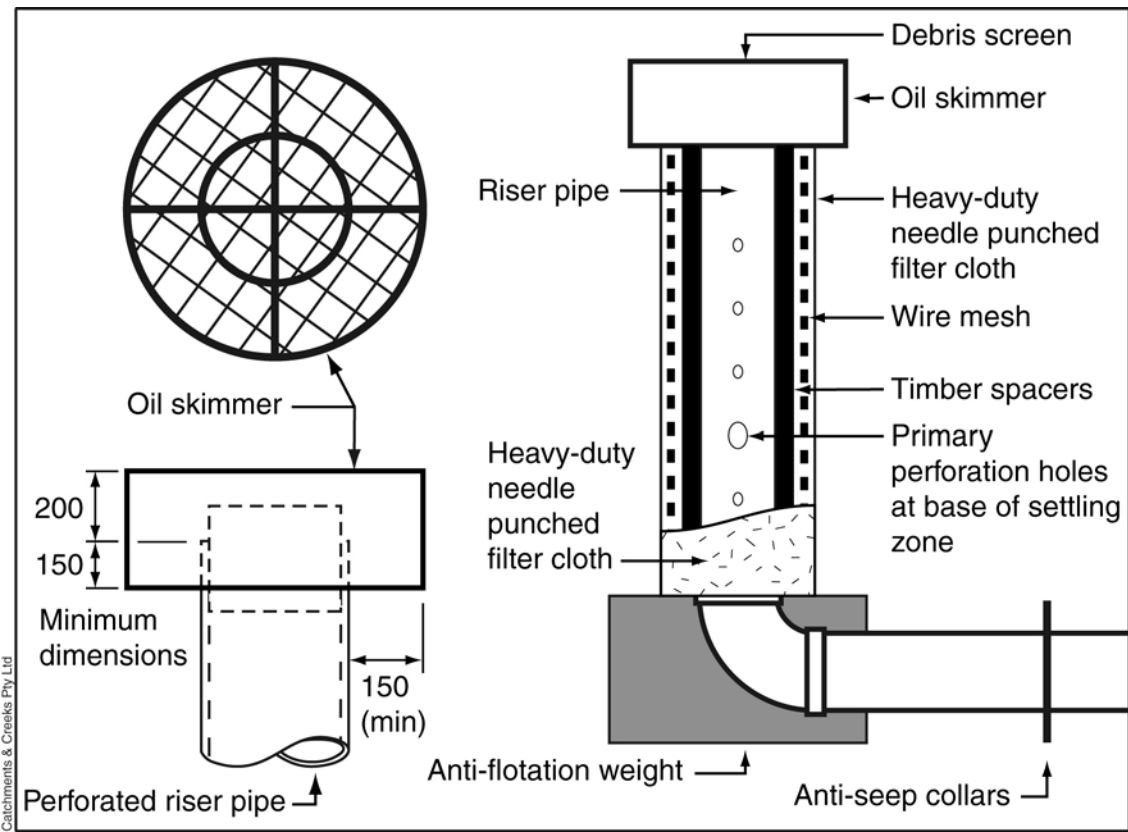

Figure 1 – Typical details of riser pipe outlet with fabric filter
- The screened open top of the riser pipe (Figure 1) can be used as a siphon spillway for storms in excess of the basin's design storm. Note; the basin's design storm is different from the design storm for the emergency spillway.
The de-watering holes must **not** be directly covered by filter cloth, instead spacers should be used to separate the filter from the surface of the riser pipe (Figure 1).
Alternatively, filter cloth can be used as the primary filter medium (Figures 1 and 3). Outlet systems that incorporate the use of filter cloth must give appropriate consideration of ongoing maintenance issues, including regular replacement of the filter cloth. It should be noted that maintenance and sediment blockage of the filter cloth will be reduced as the total surface area of the filter cloth is increased.
An oil skimmer ring (Figures 1 and 5) is normally placed around the top of the riser pipe to minimise the risk of floating debris and oil from entering the riser pipe.
The design of any riser pipe system should include allowance for uplifting (buoyancy) forces on the structure in the form of a weighted concrete base. The weight of the anti-flotation mass (Figure 1) should be no less than 110% of the mass of water displaced by the riser pipe.